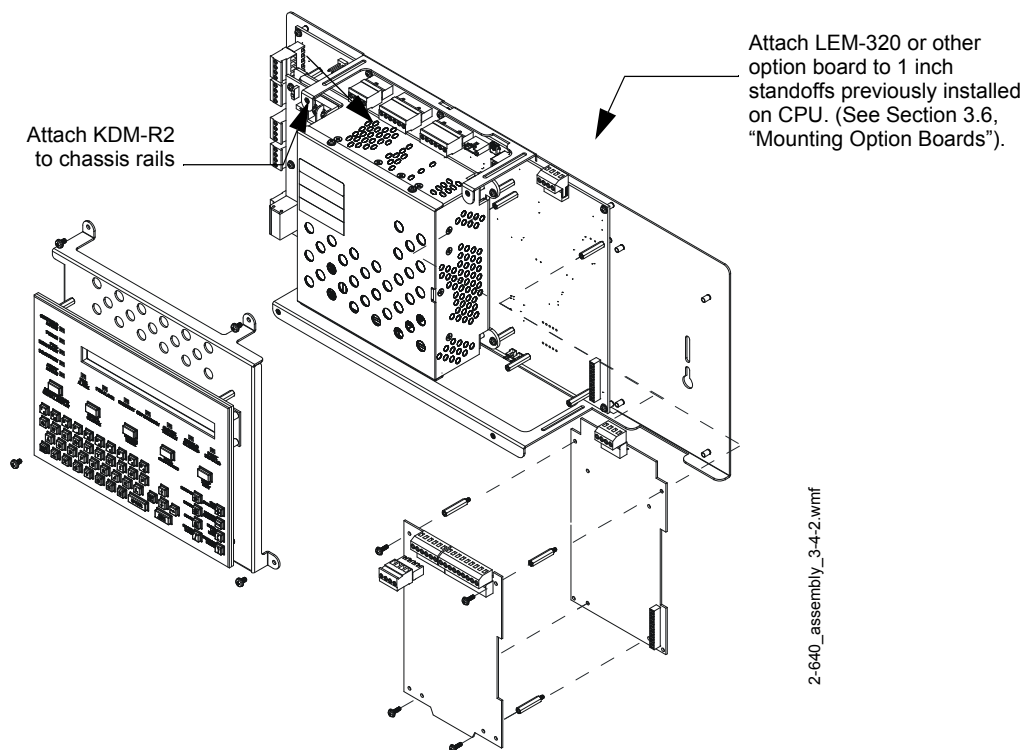
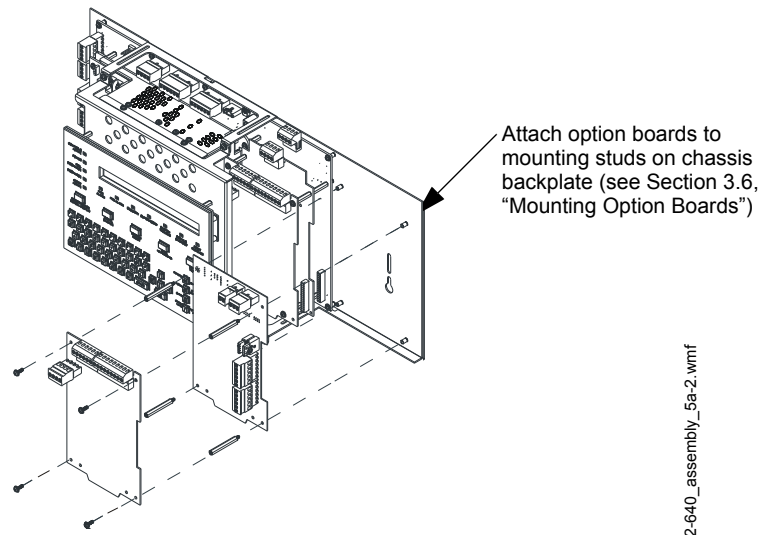

Figure 3.6 Attaching Option Boards Behind KDM-R2
Figure 3.7 Attaching Option Boards to the Right of the CPU
- Align the keypad with the mounting holes as shown in Figure 3.6 and screw it down.
Mount option boards in slots 3 and 4 of the NFS2-640/E chassis. (See Figure 3.2, Figure 3.6, and Figure 3.7.) For standoff lengths, see Table 3.2.